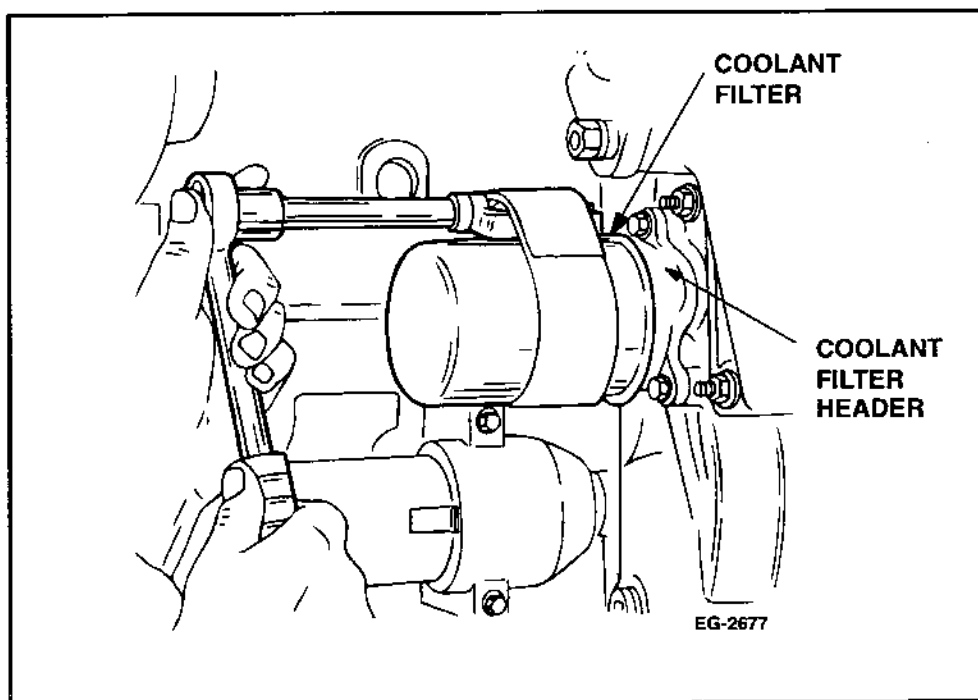

Figure 8–11 Removing Strainer Assembly
1. Remove deaeration tank pressure cap and remove coolant filter using a filter wrench/strap. The filter is located on the right hand side rear of the front cover. See Figure 8–11.